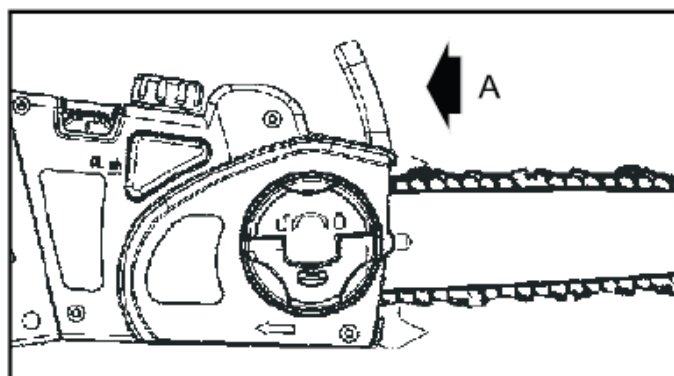

Fig. 4A
Disengage the chain brake (A) by pulling it backwards. (Fig. 4A)